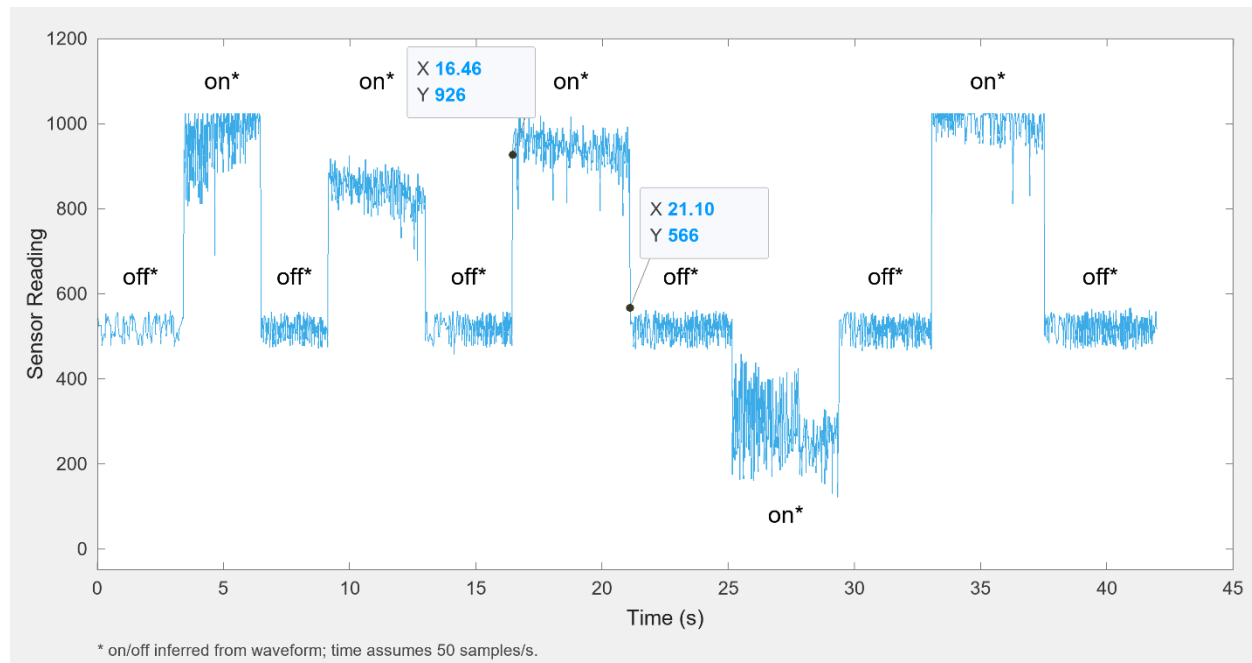

Fig. 4
To demonstrate output biasing after you find a reasonable frequency, switch on and off the function generator output for 5 cycles. Each time, keep the injection signal on for at least 3s. You have a limit of 60 seconds to finish these 5 cycles. **Log your sensor readings.** You will get some readings similar to the ones shown in Fig. 4. **Note that your goal is to continuously cause positive or negative deviations (i.e., always larger or smaller than the sensor readings without attack signals) for at least 1.5 second.** In Fig. 4, the first attack achieved $6.46 - 3.44 = 3.02$ seconds.
- Submit a figure similar to Fig. 4 by showing the sensor readings with and without injection attack for 5 times. Once you complete this figure, please ask the TA to check it off during lab sessions or open hours.
- You also need to clearly label on the figure two points that show the longest duration of your continuous positive or negative deviation among the 5 attack cycles, as shown in Fig. 4.